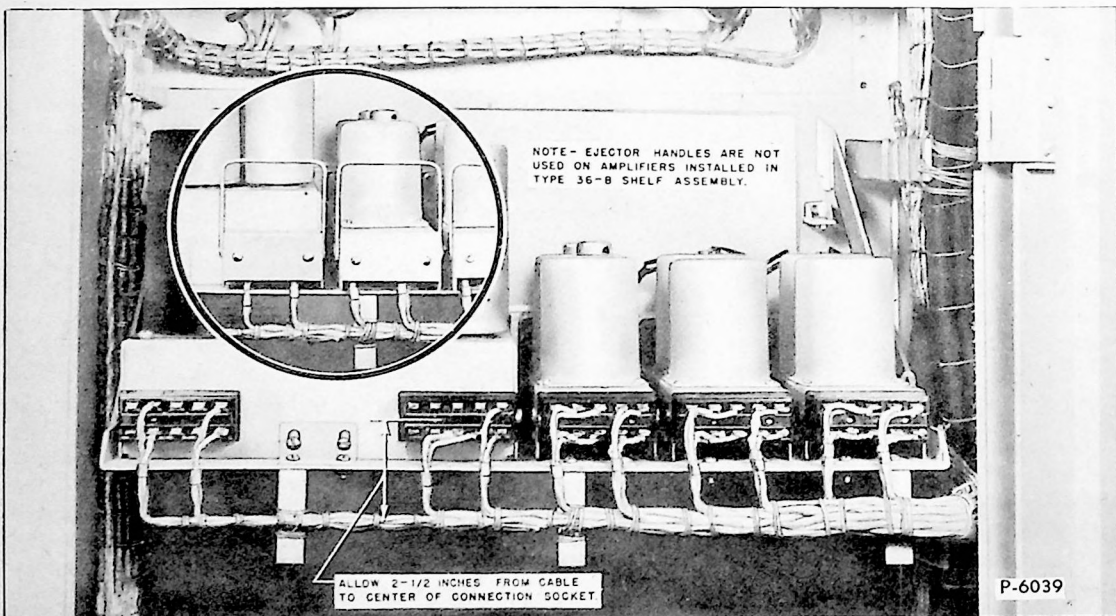

Figure 3—Mounting and wiring in Type 36-B Panel and Shelf assembly (covers removed).
12. Two socket covers are furnished in the adapter kit which act as shields for the socket-terminal connections. These covers are used with the connection sockets when the amplifier is mounted in the Type 36-B Panel and Shelf Assembly. Figure 3 shows a typical plug-in amplifier installation on this type shelf. The style of wiring as well as the methods used for securing the wire and anchoring the resulting cable are clearly indicated.